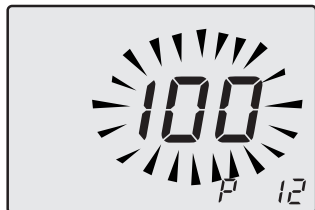

Fig. 7.44
- Scroll the various parameters using keys 15 or 16 until the letters **P12** are displayed on the LCD display and the value of the parameter (100=Activ A Plus 16S and Activ A Plus 25S), indicating that "parameter 12" (Fig. 7.44) has been activated.